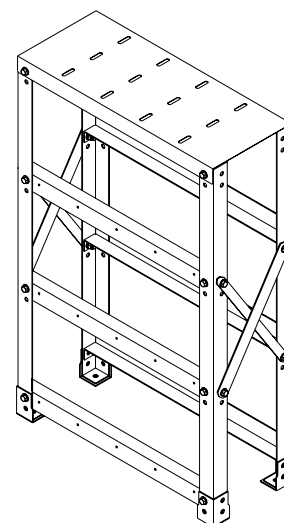

Figure 8.3d
- Continue to move up the rack installing the front and rear supports as shown in Figure 8.3d.